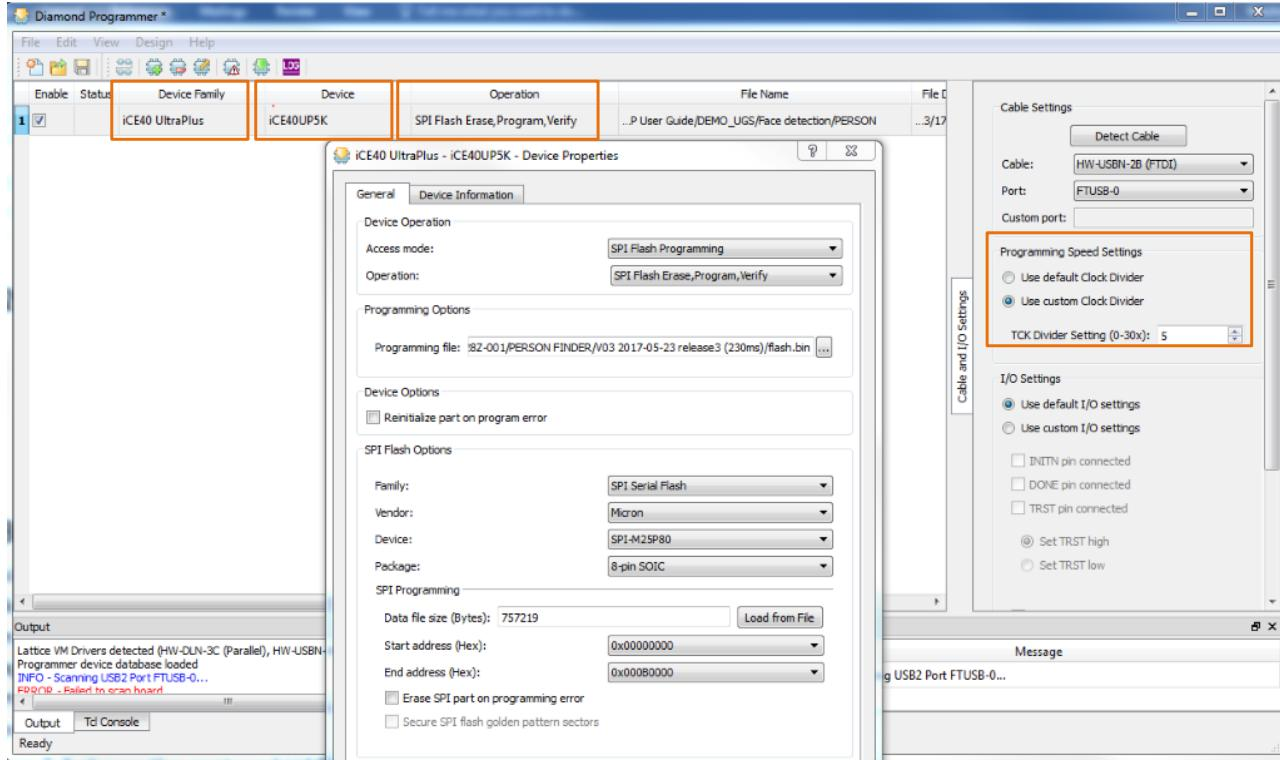

Figure 3.2. Programming Settings in Diamond Standalone Programmer
7. Open the Device Properties dialog. Apply the settings as shown in Figure 3.2.